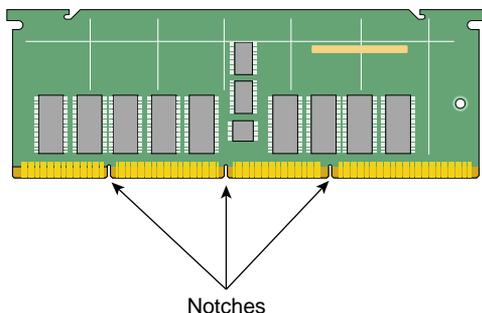

Figure 3-10 Locating the Notches on a DIMM
2. Align the DIMM with the socket. Make sure that the notches on the bottom of the DIMM align with the protrusions in the bottom of the socket (see Figure 3-10).